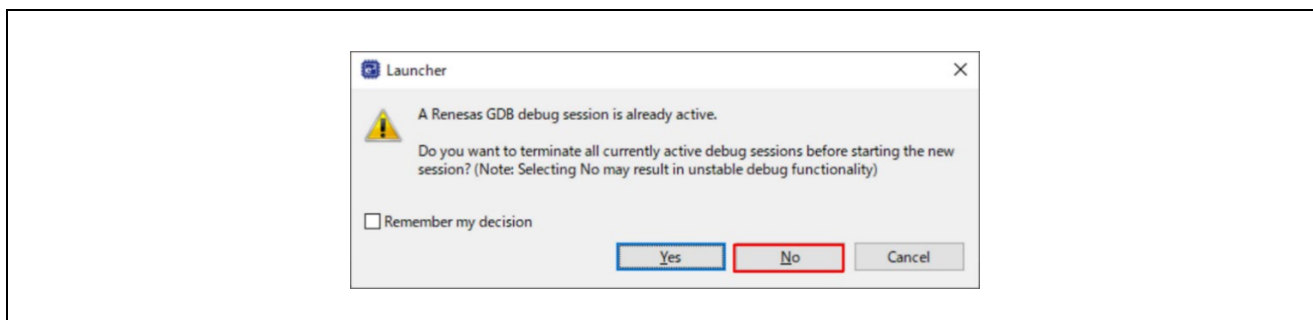

Figure 45 Warning Window of Starting Debug Session
4. When Figure 45 is shown, please click **Yes** to proceed the launch.